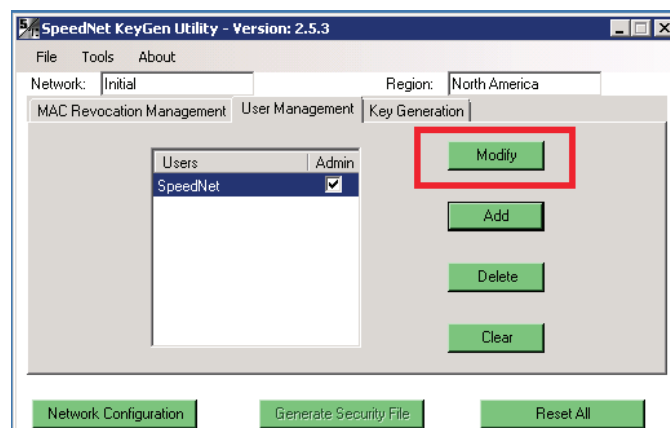

Figure 11. The KeyGen User Management window.
STEP 14. To modify a user name and/or password, first select the user from the User Management list. Then click the **Modify** button. See Figure 11.